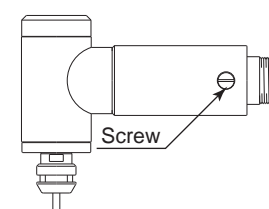

Fig. 15
- Remove the Grease Inlet Screw on the Spindle with a screw driver (Fig. 15).